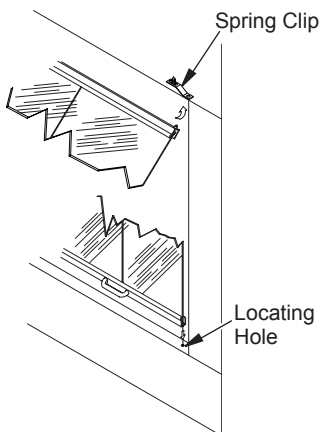

Figure 17 - Installing Fixed Glass Doors
1. Hold glass door firmly at both handles and insert top pins into clips located below upper facial edge of firebox opening. Make sure top pins snap securely into holes on spring clips (see Figure 17).
2. Push up on glass against tension of spring clips. Swing lower door into face until lower pins clear bottom rail and set into locating holes on each end (see Figure 17).